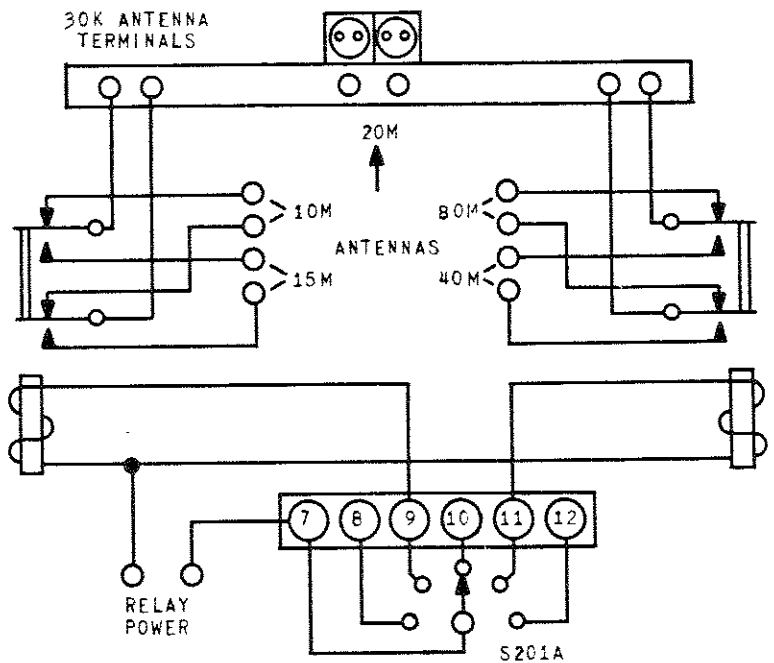

Figure 3-4 Possible Auxiliary Circuits
f. Quarter Wave Marconi. - Series tuning is indicated for the quarter wave Marconi antenna. In this type of operation the antenna tuning circuit should be connected so that the two sections of the antenna coil and one half of the antenna tuning capacitor are in series. To do this, place a grounding jumper to the rotor of the antenna tuning capacitor, connect the antenna to one end of the antenna coil, connect one stator section of the antenna tuning capacitor to the other end of the antenna coil and disconnect the other stator completely (slide contactor arm off wire). Refer to figure 3-4.